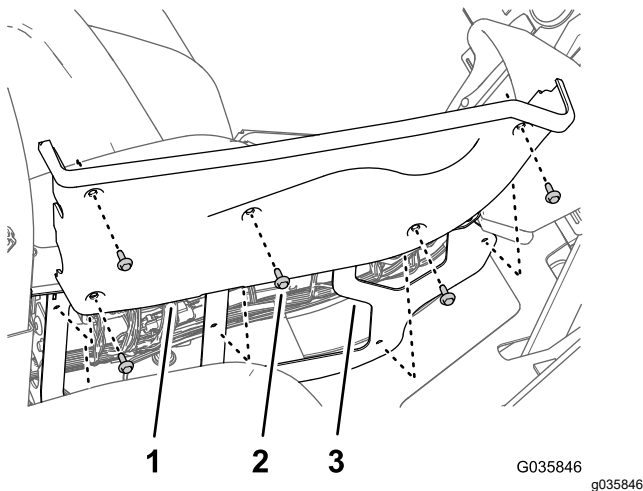

Figure 38
1. Remove the 5 flange-head bolts (1/4 x 3/4 inch) that secure the right-side cover to the center console (Figure 38).
6. Align the holes in the right-side cover with the frame of the center console (Figure 38).
7. Secure the side cover on the center console (Figure 38) with the 5 flange-head bolts (1/4 x 3/4 inch) that you removed in step 1.